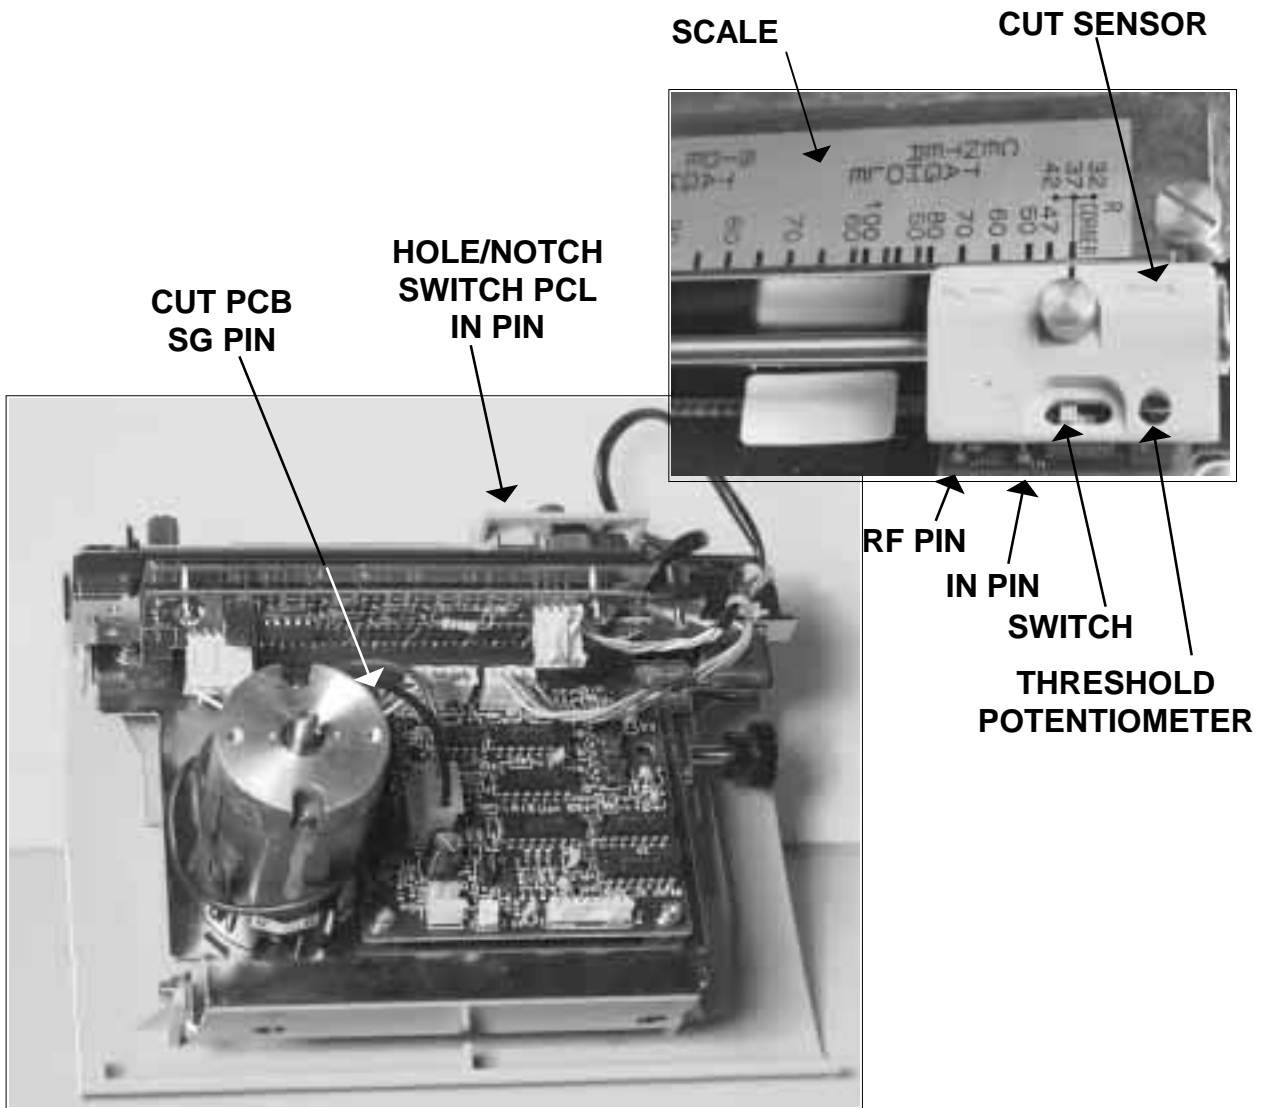

Fig. 4-26
1.	Turn off the printer and remove the cutter but do not disconnect the electrical connection. Fig.4-26
2.	Set the switch on the Cutter sensor to hole tag position, (left). Fig.4-26